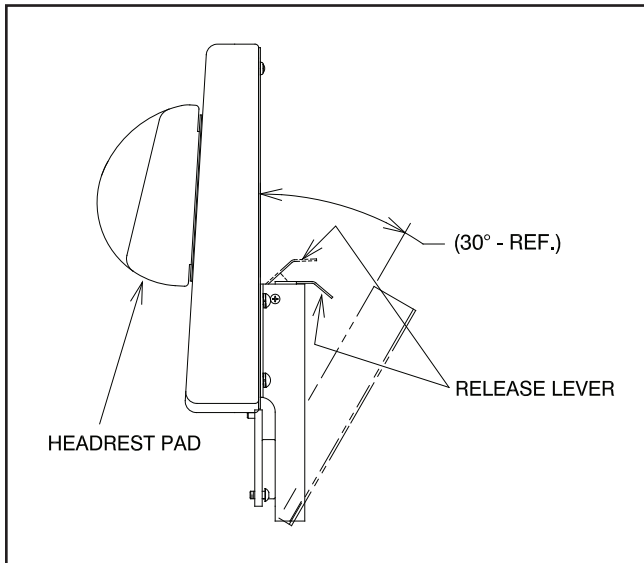

FIGURE 7
3.9.9.3. To install the Headrest, lift up on the Release Lever (See Figure 7) and tilt the Headrest backward. Fold (Rotate) the Headrest down until screws are clearly visible. Place mounting plate into headrest bracket; tighten screws with a 1/4" Allen Wrench. Rotate Headrest in a straight up position, and then push forward to lock for normal operation.
3.9.9.4. To stow the Headrest, lift up on the Release Lever (See Figure 7) and tilt the Headrest backward. Fold (Rotate) the Headrest down (180°). Gravity and Friction will retain the Headrest in its stowed position, where it will not interfere with any movements of the Chair Top.